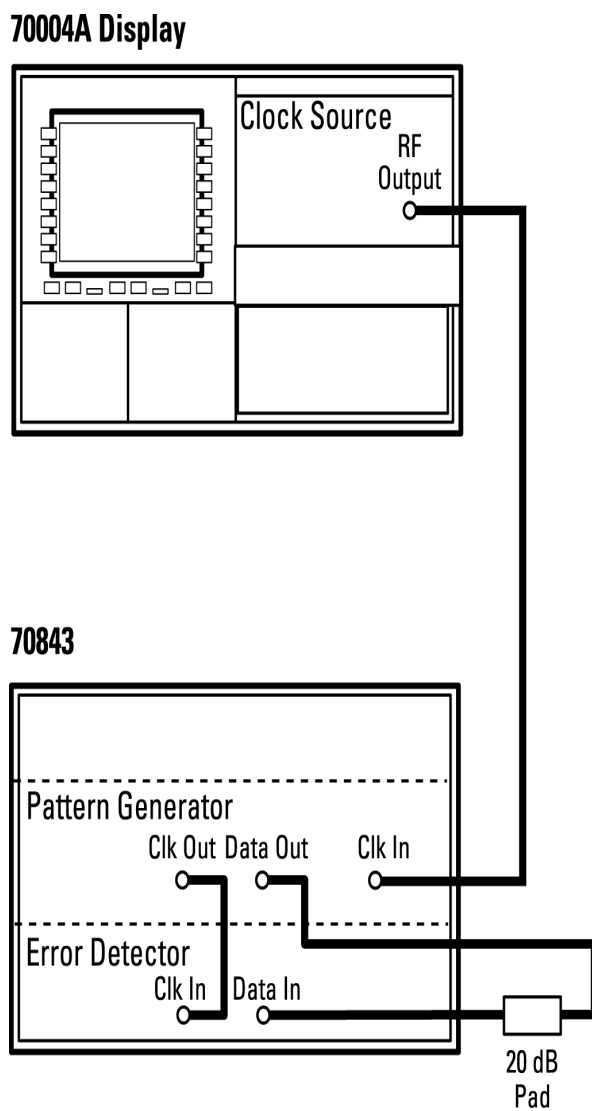

Figure 11-12
1. Connect the equipment as shown in Figure 11-12.